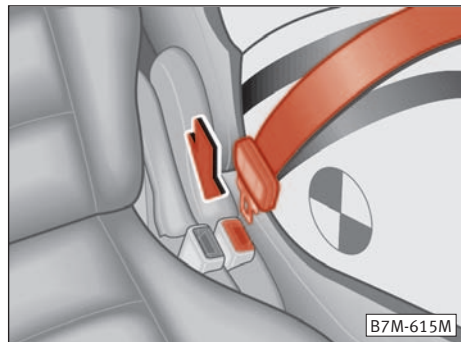

Fig. 15
- Insert the lock flap (the largest piece with handling instructions on it) into the right hand-side lock slot of the seat ⇒ fig. 15.